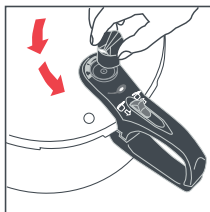

Fig.16
- 3. On lifting the valve,** trying moving it anti-clockwise to the circle crossed by a line. You'll see a groove and once the valve reaches it you'll be able to turn it completely to opening position, a circle crossed by a line (Fig.16).